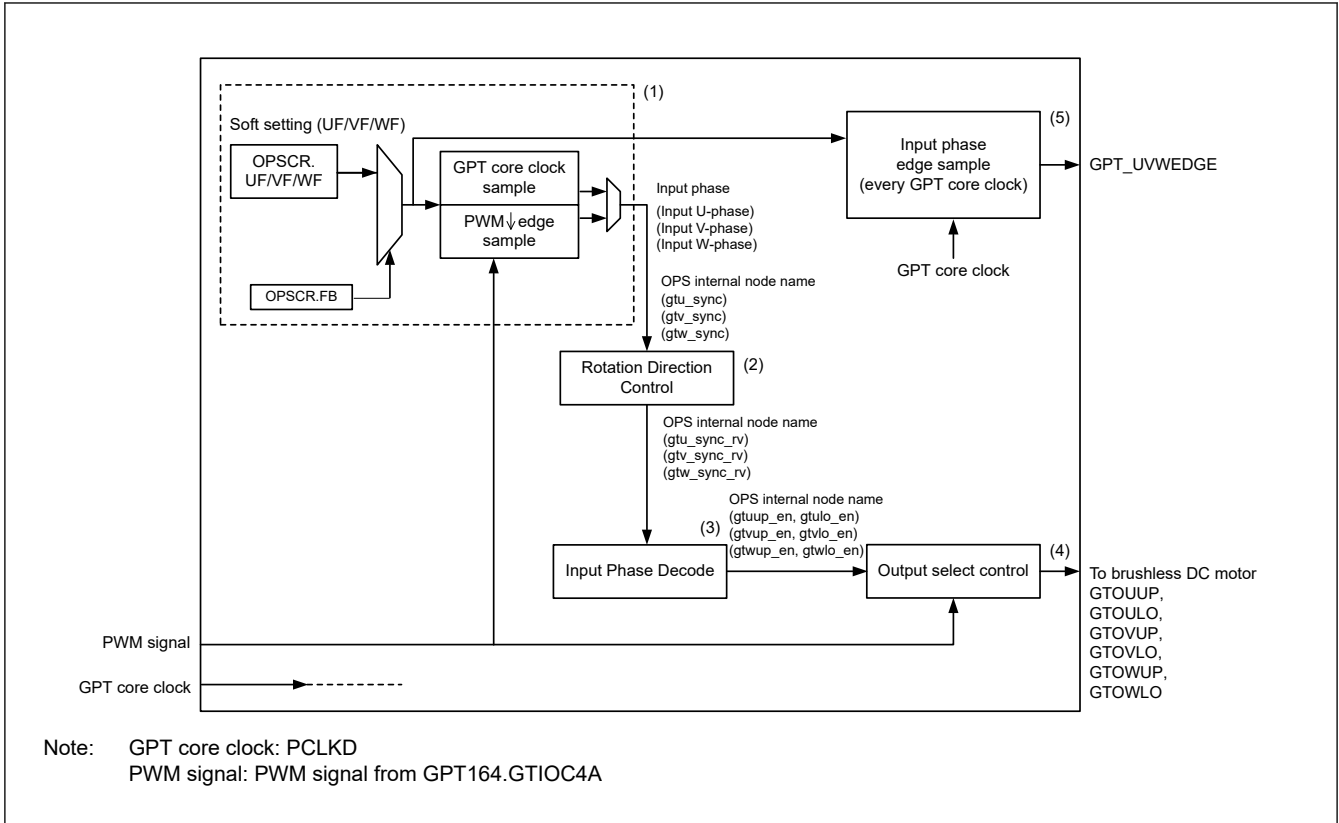

Figure 20.55 Conceptual diagram of GPT\_OPS control flow
Figure 20.55 shows the conceptual diagram of GPT\_OPS control flow.
In the GPT\_ OPS control flow conceptual diagram shown in Figure 20.55, (1) is a selection of input phase from the software settings by the OPSCR.FB bit.
In the GPT\_OPS control flow conceptual diagram shown in Figure 20.55, (3) enables the 6-phase signals by decoding the input phase.
In the GPT\_OPS control flow conceptual diagram shown in Figure 20.55, (2) controls the direction of rotation of a 3-phase motor using the OPSCR.RV bit.
In the GPT\_OPS control flow conceptual diagram in Figure 20.55, (4) represents the selection of the output waveform by setting the OPSCR register bit.
In the GPT\_OPS control flow conceptual diagram shown in Figure 20.55, (5) outputs the UVW input signal edge to the ELC.